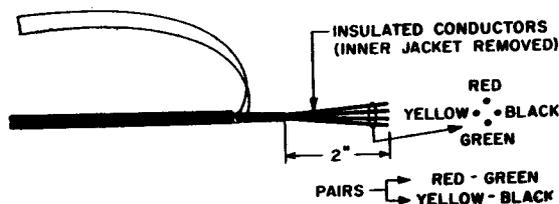

FIGURE 4 - B SERVICE WIRE WITH INNER AND OUTER JACKETS REMOVED
- (f) Measure 2 inches from the end of the inner jacket and cut off excess portion of the conductors, as shown in Figure 4. When repairing B service wire that is defective, the length of the conductors will depend on the extent of damage to the wires.